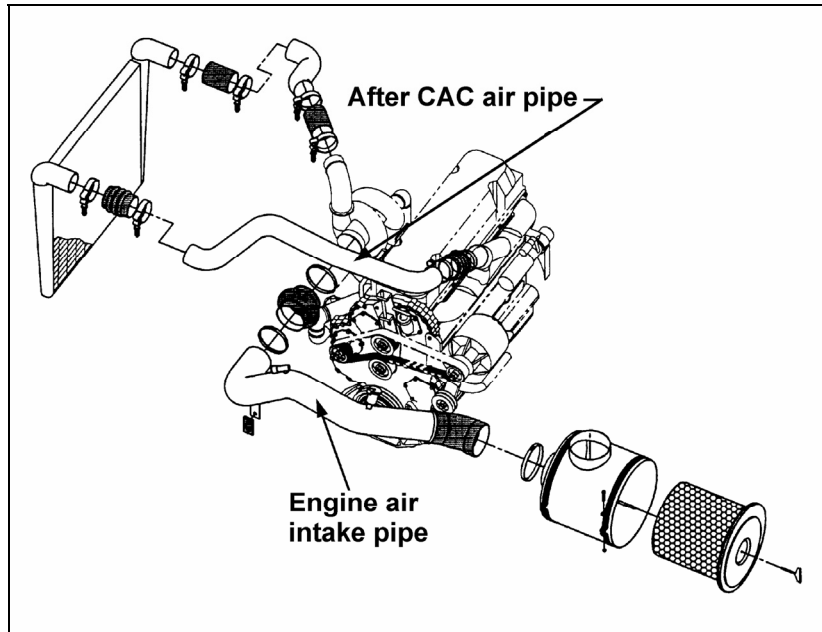

FIGURE 1: ENGINE COMPARTMENT
3. Remove engine air intake pipe (refer to fig. 1).
4. Remove after CAC air pipe (refer to fig. 1).